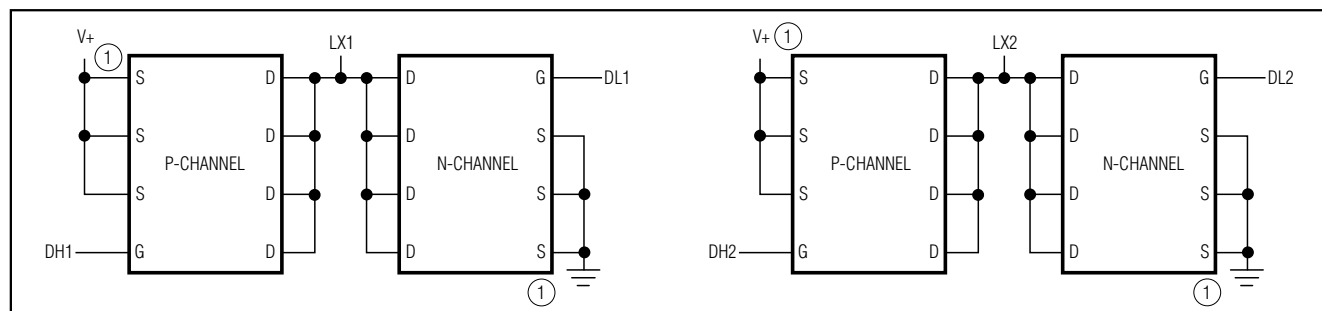

Figure 10. Two Single N-Channel MOSFETs and Two Single P-Channel MOSFETs Design
- Two single N-channels and two single P-channels (Figure 10)